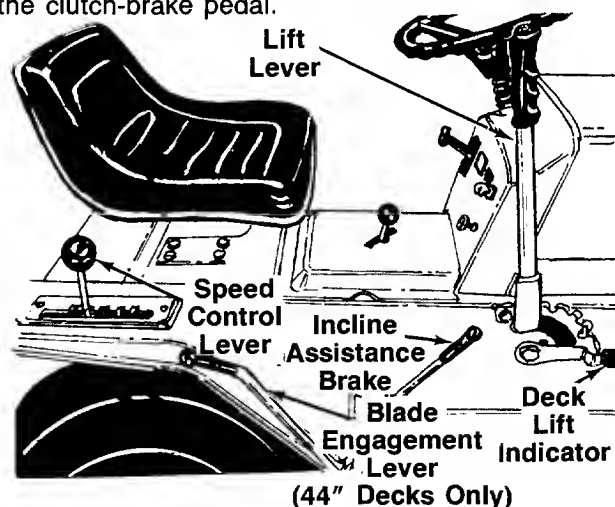

FIGURE 10.
The speed control lever is located on the right fender. It allows you to regulate the ground speed of the lawn tractor. See figure 10. To select the ground speed, depress clutch pedal. Push speed control lever outward and move backward to slow lawn tractor, move forward to increase speed. When desired speed has been obtained, release lever in that position. Whenever clutch is engaged, unit will automatically go to the pre-set speed.
When stopping on a hill, hold the incline assistance brake lever back while you release the clutch-brake pedal until the lawn tractor begins to move, then release the lever. This lever permits smoother starts and clutch engagement by holding the tractor during the brake release/clutch engagement operation. See figure 10.
The lift lever is located on the right side of the unit. It is used to raise and lower the cutting deck and other attachments. Move the lever to the right, then forward or backward to the desired position and release. See figure 10.
The deck lift indicator marks the position being used for the lift lever. Select the lift lever position desired, press the indicator lever outward, move it to the position immediately below the lift lever and release the indicator lever. See figure 10.
3. Place the blade engagement lever (if so equipped) or lift lever in the DISENGAGED position. See figure 10.